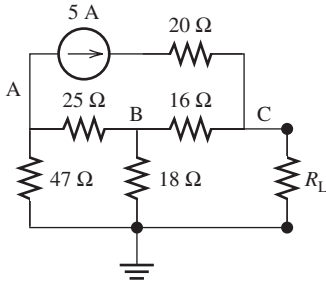

FIGURE P3.56 Circuit for Problem 3.56.
3.56 (A) Find the Thévenin equivalent circuit as seen by R_L in Figure P3.56.